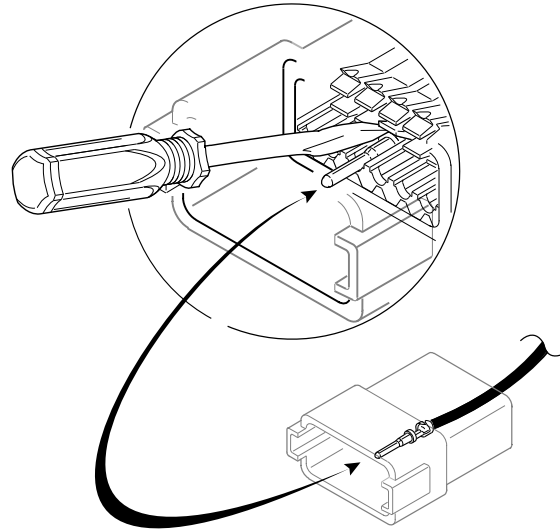

Figure A-18. Deutsch Connector: Depress Terminal Latch and Back Out Pin
- See Figure A-18. Use a pick or small screwdriver to depress terminal latches inside socket housing and back out sockets through holes in rear wire seal.